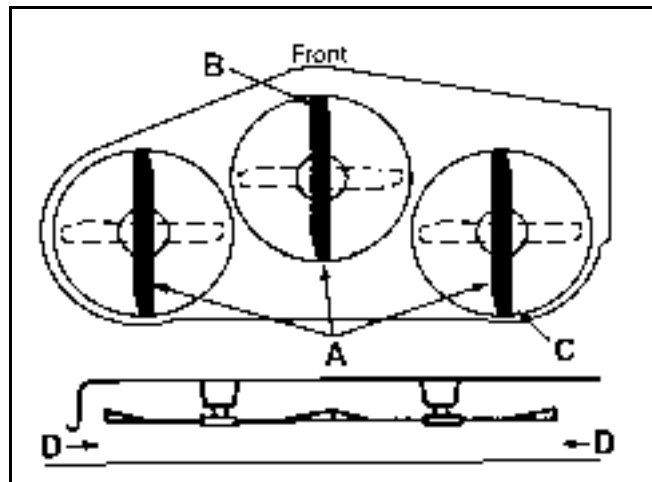

Figure 244
- Move the height-of-cut lever (deck lift) into the "C" notch and carefully rotate the blades so they are facing front to rear (Figure 244).
- Measure between the tip of the front blade (Figure 244) and the tip of the rear blade to the flat surface. If the front blade tip is not 0-5/16" (0-8mm) lower than the rear blade tip an adjustment is needed (Figure 244).